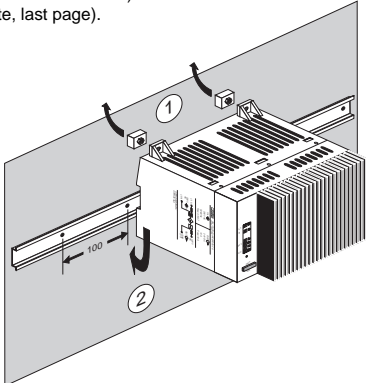
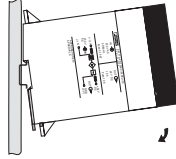
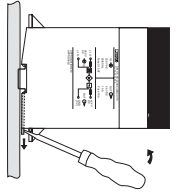

Fig. 4
Fig. 6
Fig. 7
Mounting (Fig.6): Place the orange spring catches in the unlocked position using a screwdriver (see also Fig. 7).
Hook in the device with the mounting rail guide on the top edge of the mounting rail and lock it downwards into position ② (Fig. 4 and Fig.6) - Lock the spring catches with light pressure on them.
Dismounting (Fig.7): Place the orange spring catches in the unlocked position.